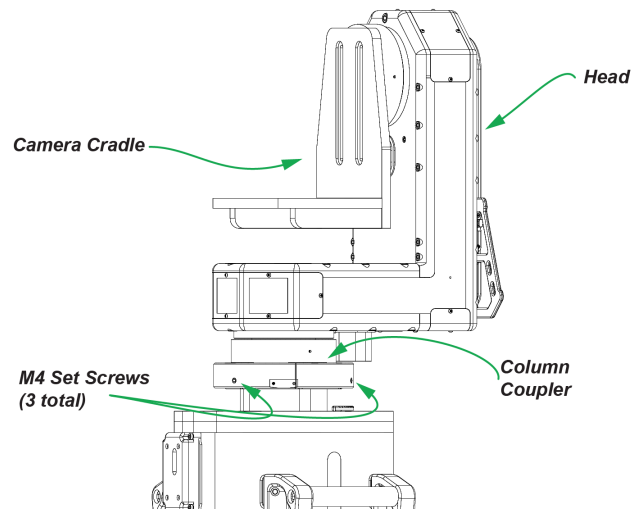

Figure 20 - Robotic Head
2. Use the grease pencil to mark the position of the payload on the camera cradle (refer to **Figure 20**), and then remove the payload. Marking the payload position enables you to return it to its exact original position, which is especially important if it is part of a Virtual Studio / Augmented Reality (VS/AR) solution.
2. While another person holds the head steady, use the 4 mm hexagonal wrench to loosen the three M4 set screws along the edge of the head/column coupler, until the head is loose enough to remove from the lift column. Refer to **Figure 20** above.